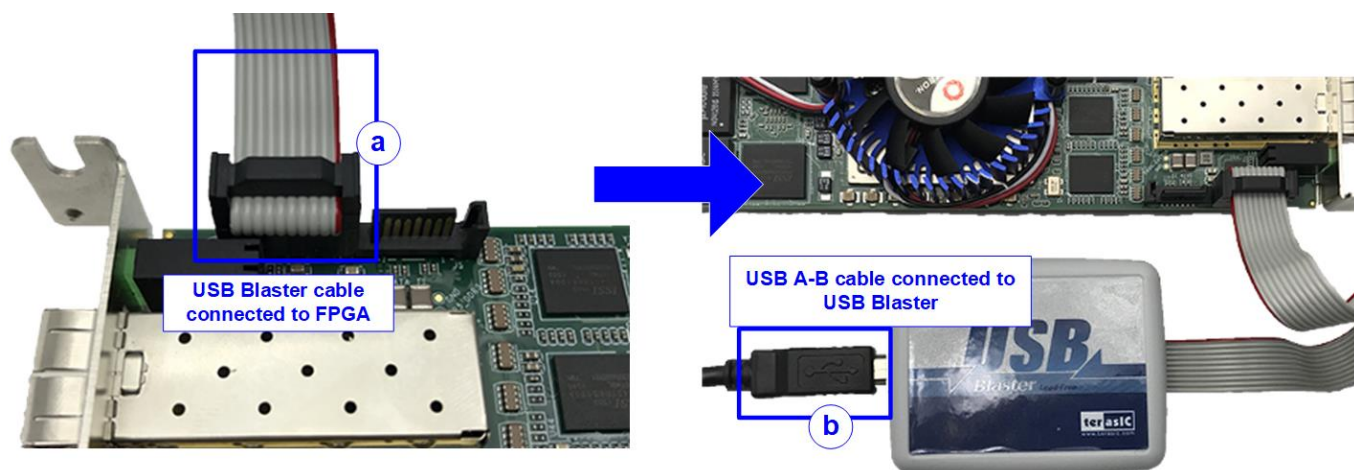

Figure 2-3 USB cable connection
b. Connect USB A-B cable to USB Blaster, as shown in Figure 2-3.